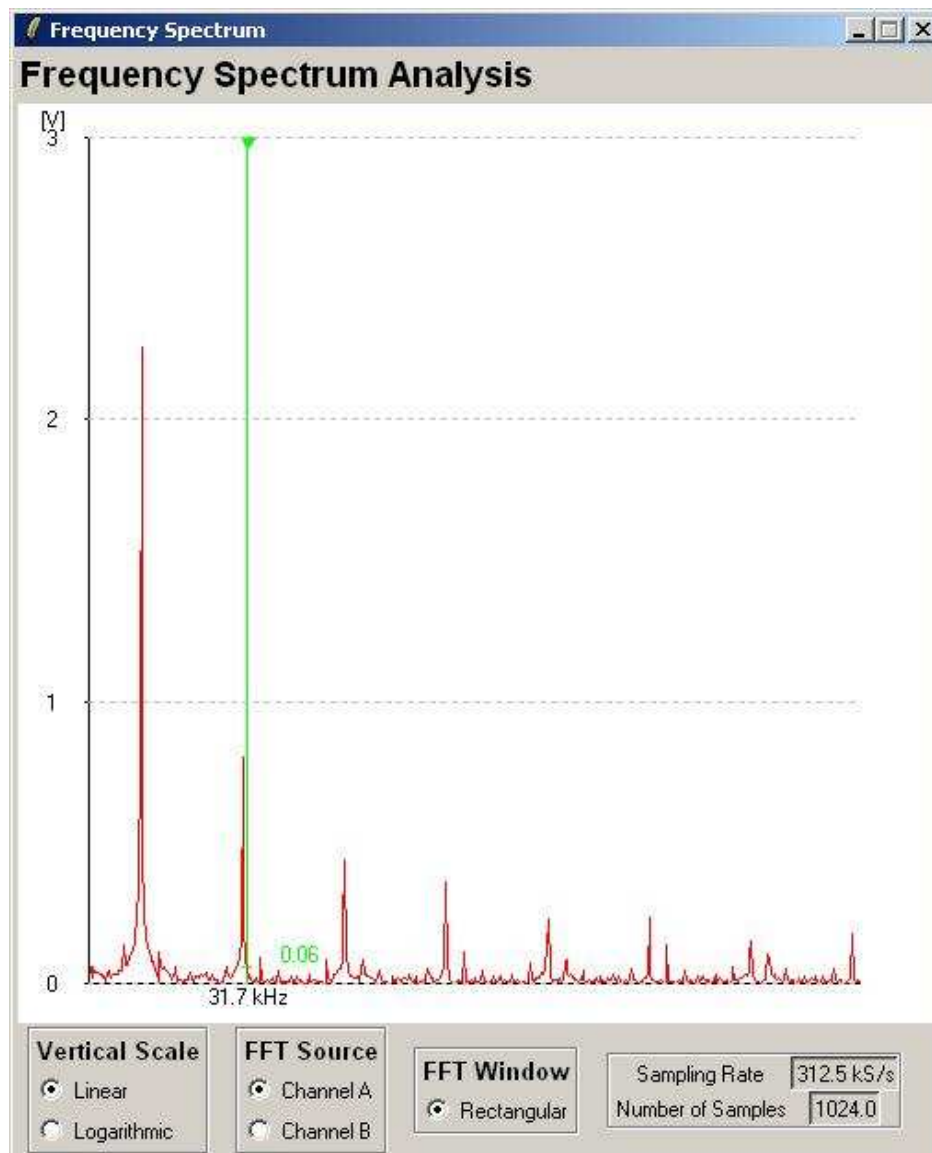

Figure 10: Square Wave Spectrum
Clicking on Tools -> Spectrum Analysis brings up the spectrum analysis display of figure 10. The displayed spectrum in this image is a 10kHz square wave.
- The Effective Sampling Rate is shown in a readout at the bottom right corner of the spectrum display. This is important: the sampling rate must be at least twice the frequencies being analysed to avoid aliasing. Put another way, there must not be frequency components above the Nyquist rate, which is half the sampling rate. In the example shown in figure 10, the sample rate is 200kHz. The frequency components range from 10kHz to 90kHz, below the Nyquist rate of 100kHz⁵.
- As the readout cursor is dragged higher in frequency it jumps from bin to bin, reading out the centre frequency of each bin. A given frequency component may not be centred in its bin, so the frequency readout will be only approximate. For example, in figure 10, the square wave frequency (generated by a Syscomp WGM-101 waveform generator) is at a frequency 10kHz to within a fraction of a Hz. The 9th harmonic is at 90kHz. The spectrum display readout puts the 9th harmonic at 90234 Hz, which is only approximately correct.
Determine the frequency resolution (bin spacing) for the case of the display of figure 10.